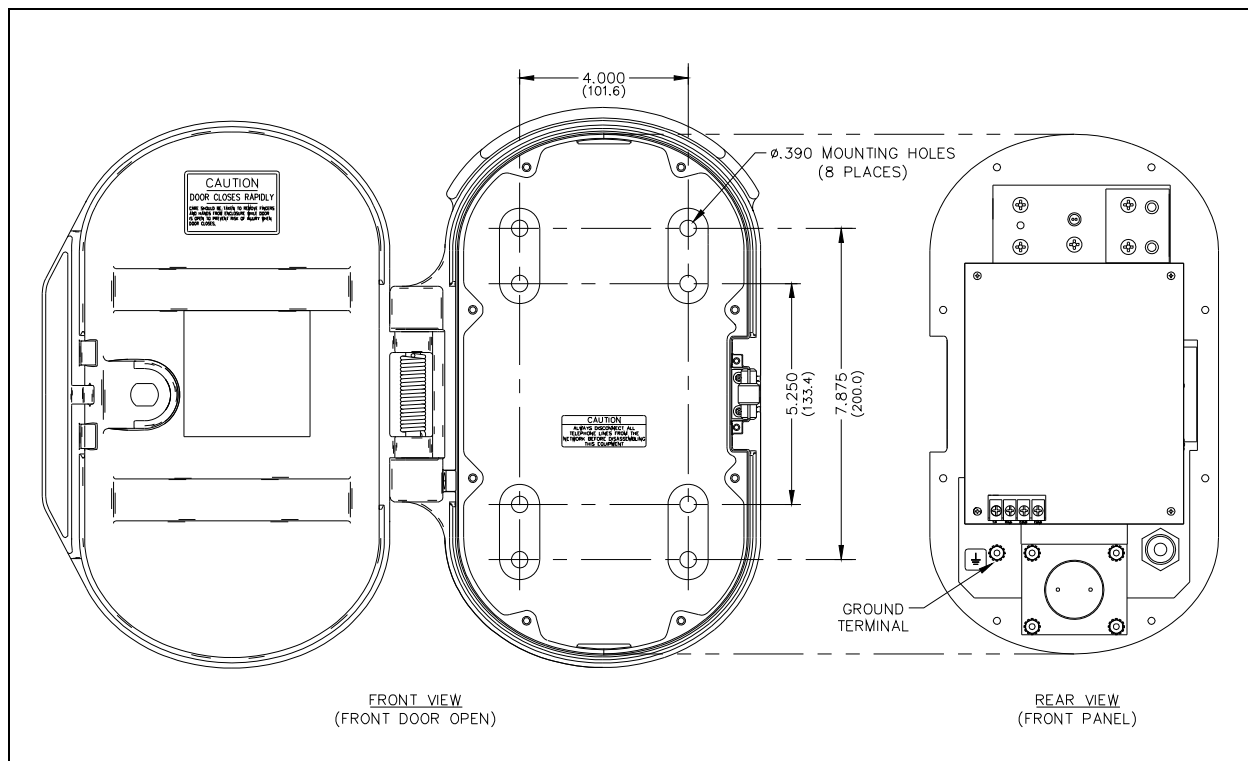

Figure 5. Model 226-005 Mounting Details
2. There are eight mounting holes in the back of the enclosure in two 4-hole patterns. Determine which hole pattern will be used for mounting. See Figure 5.